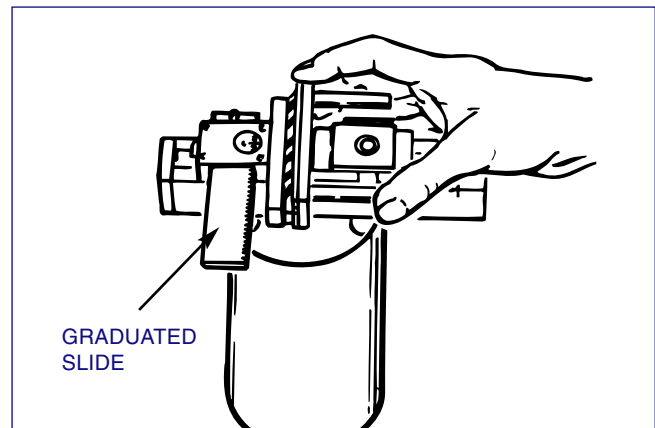

FIGURE 3-15, Stone Assembly
8. Place Guide/Stone Assembly in Setting Gage with graduated slide set at "0" (*see Figure 3-15 & 3-16*).